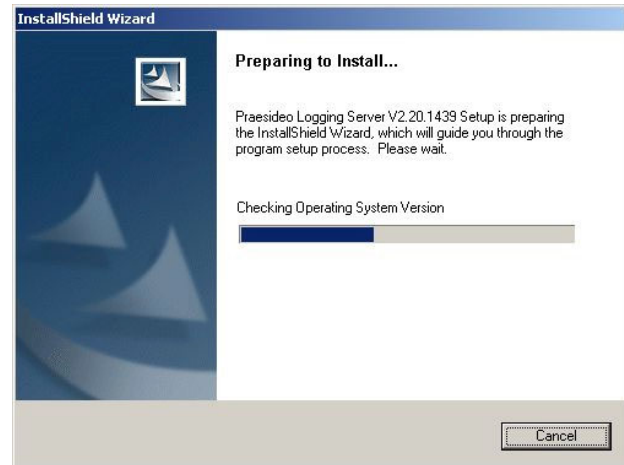

figure 56.1: Logging server setup
- 3 Click the *Open* button to start the setup program of the *Logging Server*. A screen similar to the one in figure 56.1 appears.